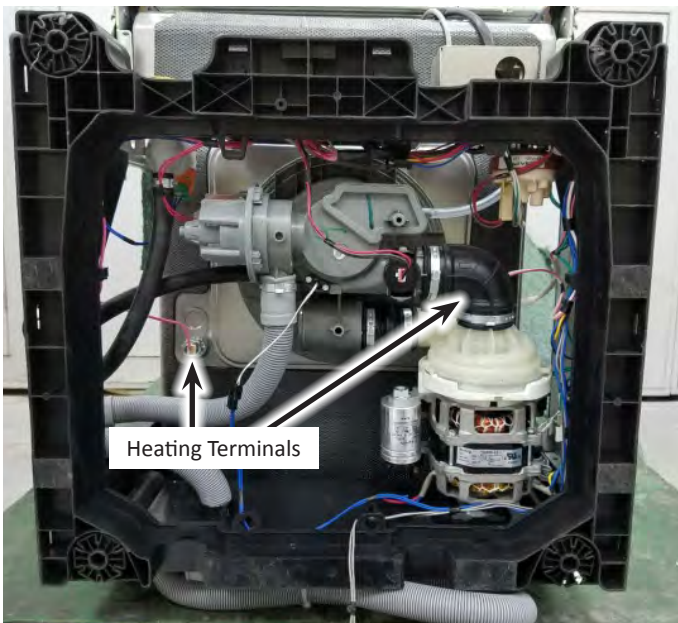

Figure 1
4. Remove the one (1) screw that attaches base cover to the base. Remove base cover and set aside.
5. Disconnect the two (2) pink wires from the heating element terminals (see Figure 1).